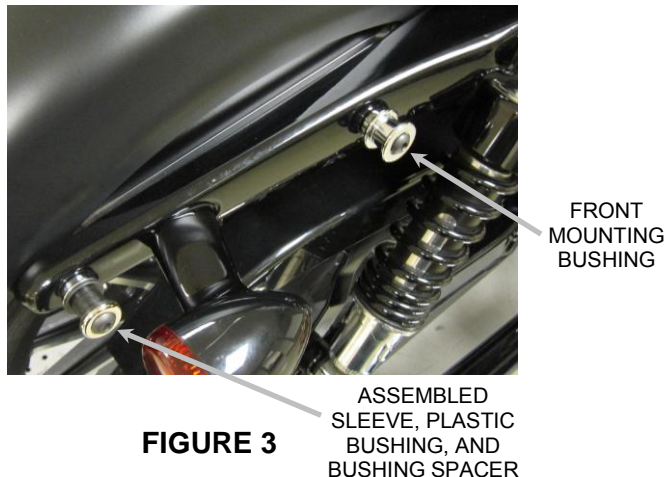

FIGURE 3
2. Install the front mounting bushing into the front hole using the supplied 5/16"-18 x 2-3/4" long buttonhead bolt and stock inner nut. Tighten bolt securely. See **FIGURE 3**.
5. Install the bushing onto the rear of the frame rail by inserting the 5/16"-18 x 2-1/4" long buttonhead bolt through the sleeve, through the supplied bushing spacer, and into the rear frame. See **FIGURE 3**.